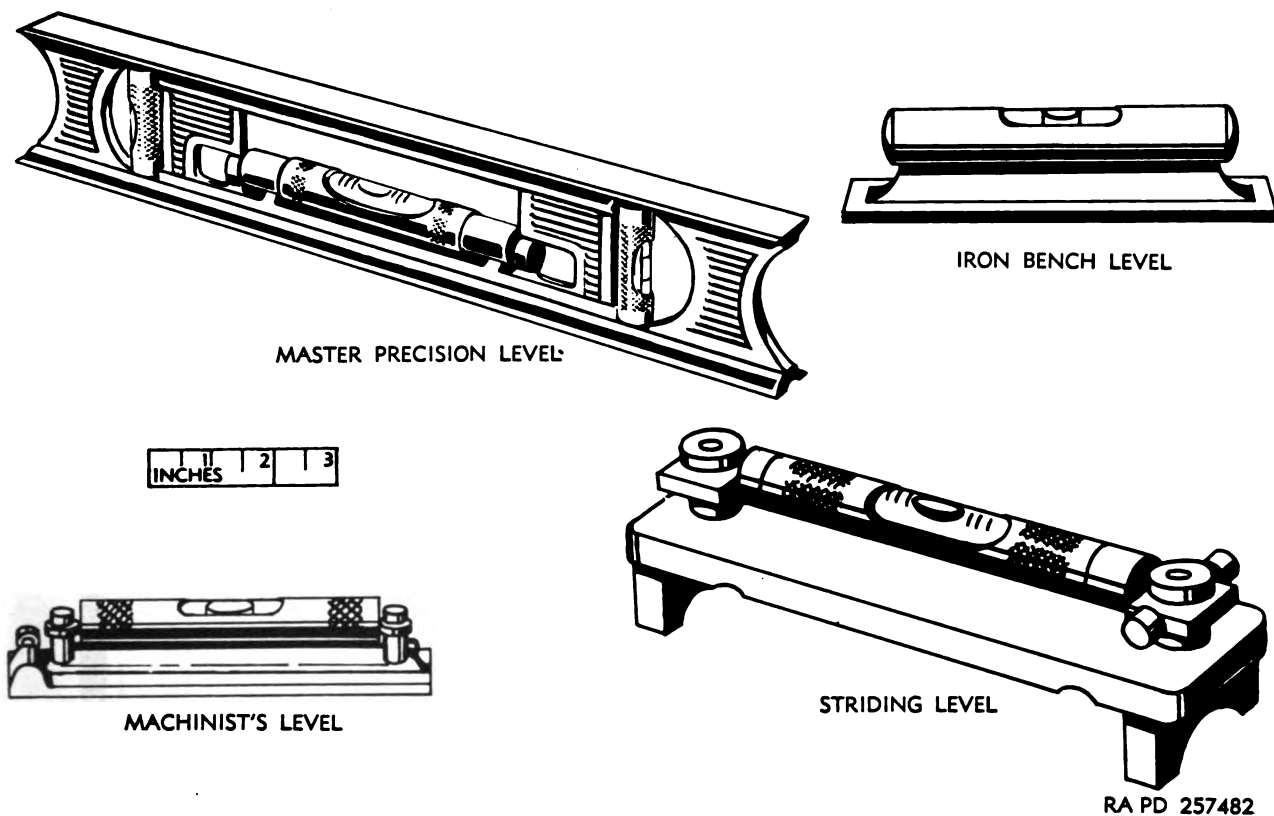

Figure 12. Types of levels.
(fig. 12)
a. Master Precision Level. The master precision level (fig. 12) has an accurately ground
c. Iron Bench Levels. Iron bench levels (fig. 12) are commonly used by machinists, plumbers, millwrights, electricians, and in all forms of construction. They are made of strong castings of special construction which insure lightness, strength, and rigidity. They all have ground and graduated vials.
d. Striding Levels. Striding levels (fig. 12) are machinist's bench levels specially adapted for spanning over obstructions. The vial is mounted on a support that has two legs. The legs are machined concave in the center to span obstructions, such as a pipe that runs parallel
b. Machinist's Levels. Levels of this type (fig. 12) come in various sizes with adjustable ground glasses and graduated vials with cross levels. The adjustable ground glasses are extra long and of large diameter arc, making them a sensitive and accurate level for machinists' use. Some of these levels have grooved bottoms, making them particularly valuable for leveling shafting, pipes, and so forth.